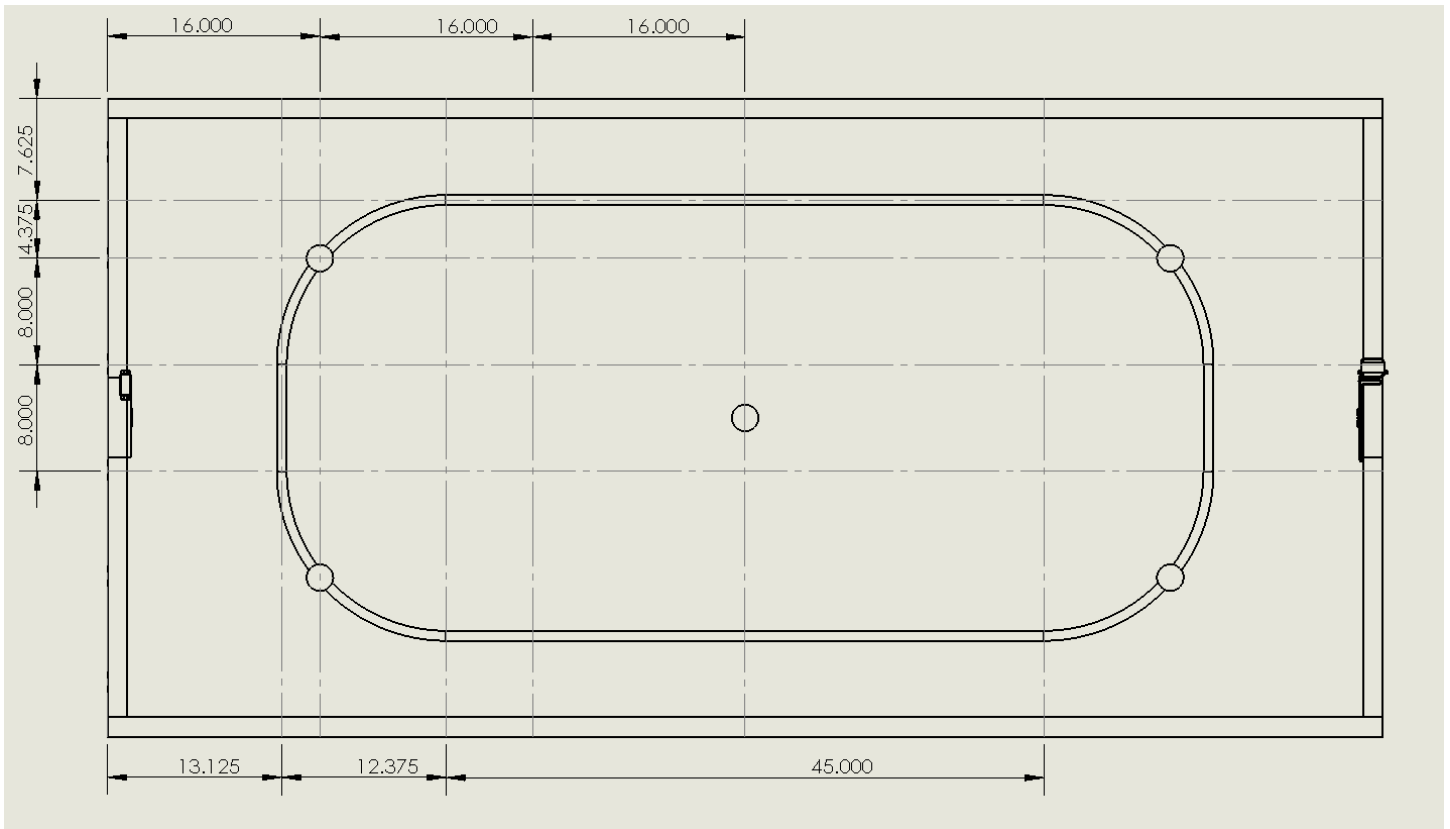

Figure 2: Track dimensions
5. Draw light construction lines on the tile board to mark the centerlines for the tape as indicated in Figure 2.
7. Paint 2 dowels (1" x 2" diameter) with the red paint specified. Place the pucks in the locations indicated in Figure 2.
8. Paint 2 dowels (1" x 2" diameter) with the blue paint specified. Place the pucks in the locations indicated in Figure 2.
9. Paint 1 dowel (1" x 2" diameter) with the black paint specified. Place the puck in the location indicated in Figure 2.